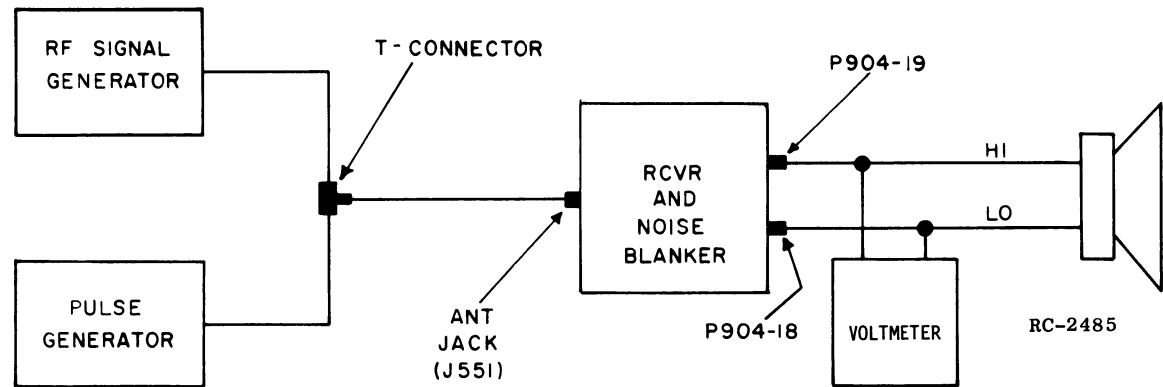

Figure 1 - Equipment Connection Diagram
- Connect Pulse Generator and RF Signal Generator to receiver antenna jack (J551) through a T-Connector, and connect AC Voltmeter to receive audio output (Speaker LO, P904-18, Speaker P904-19) as shown in Figure 1.